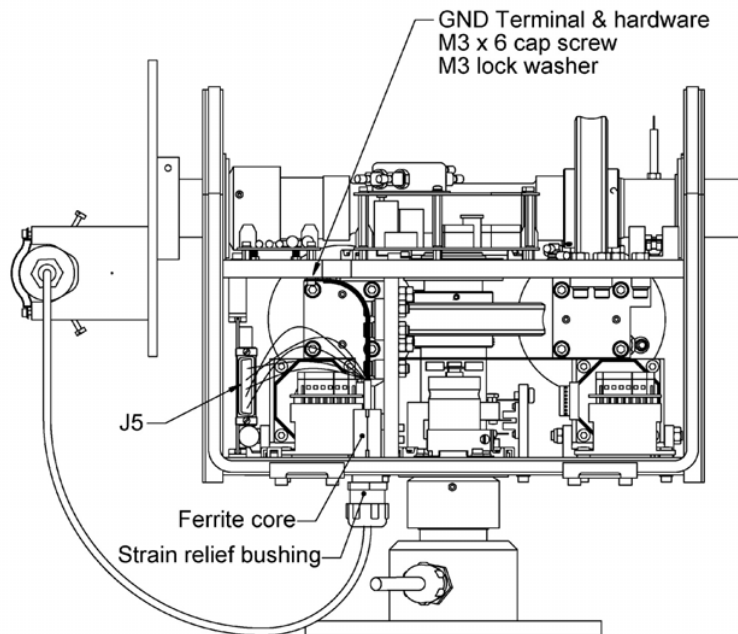

Figure 4.28: Routing Sun Sensor Cable
- Pass the ground terminal and connector leads through the strain relief bushing, see figure 4.28.
- Once the cable has been routed as shown and secured in the Strain Relief Bushing, the electrical connections can be made. Connect the Sun Sensor ground wire (ring-tongue terminal) to the chassis, see figure 4.28.